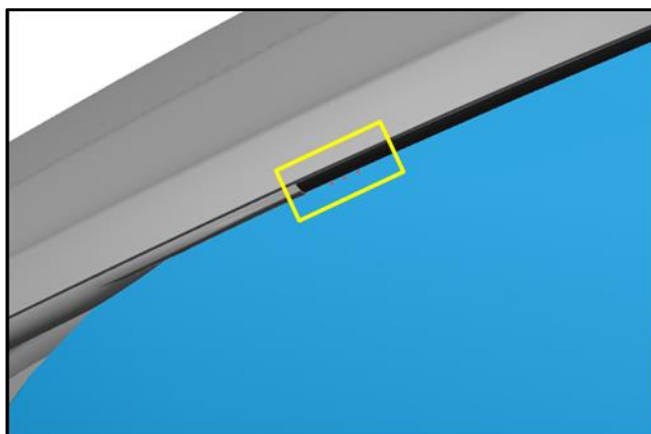
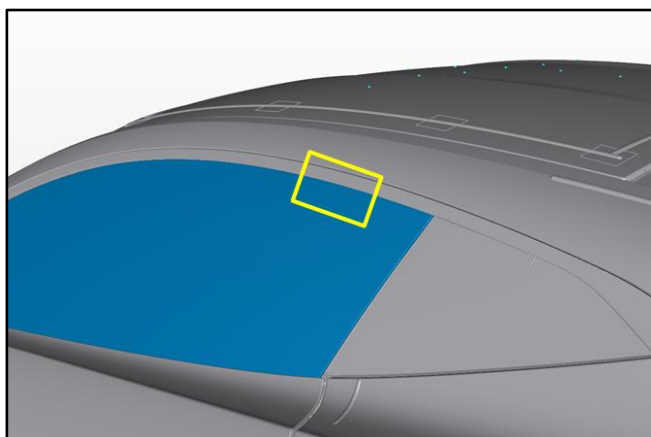

Figure 11
Figure 12
21. Identify the 9 dots on the front and rear of the of the door glass. (Refer to Figure 11 and Figure 12.)